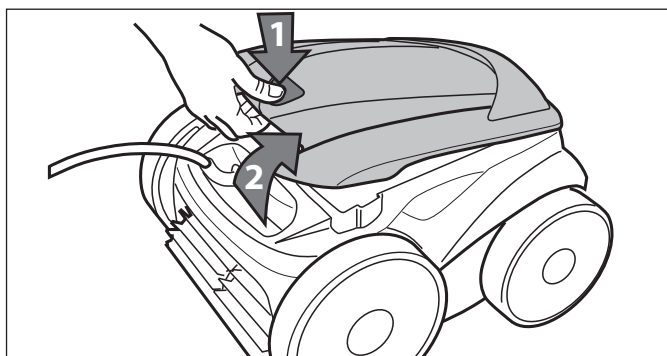

Figure 24. Lift Cleaner Cover
4. To remove the filter from the cleaner, follow the steps 1 through 6 (Figures 24 through 27).
5. Push the cover lock (1) and lift the cover (2) until it is secured in the vertical position. Refer to Figure 24.